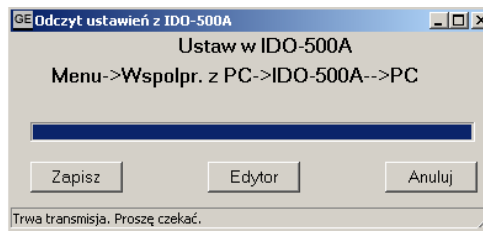

fig. 28
If the transmission finishes successfully, the Save and Edit buttons will get unblocked, as shown on the fig.28.
**Point 1.** In order to read the IDO-500A memory, press the Read IDO button. A window shown on the fig. 28 will appear. Proceed analogically as in chapter 2.4.1.